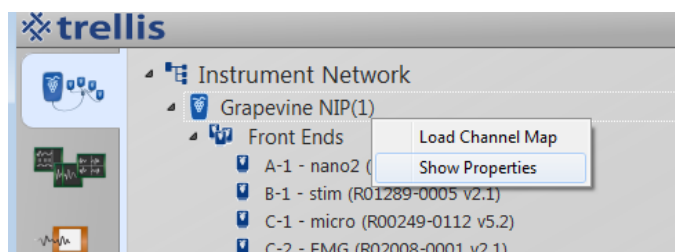

Figure 3-9 Trellis Instruments – Loading a global channel map
- Electrode-to-channel map files can be loaded as shown in Figure 3-9.
Map files allows you to label and arrange channels to match the physical layout of your electrode array. Each map files contain a set of entries, one entry per line. Each line specifies a label and a display location (i.e. x, y) for a Front End channel. Once you load a map, all applications will update to use the specified labels. Also, Spike Grid will update to arrange spike displays according to the specified coordinates. Map files can be loaded from the Instrument Network browser by right clicking on a Explorer system, e.g., Explorer Summit (1), as shown in Figure 3-9 below, and clicking on "Load Channel Map". Map files can be cleared by right clicking on the same Explorer item and clicking "Clear Channel Map".